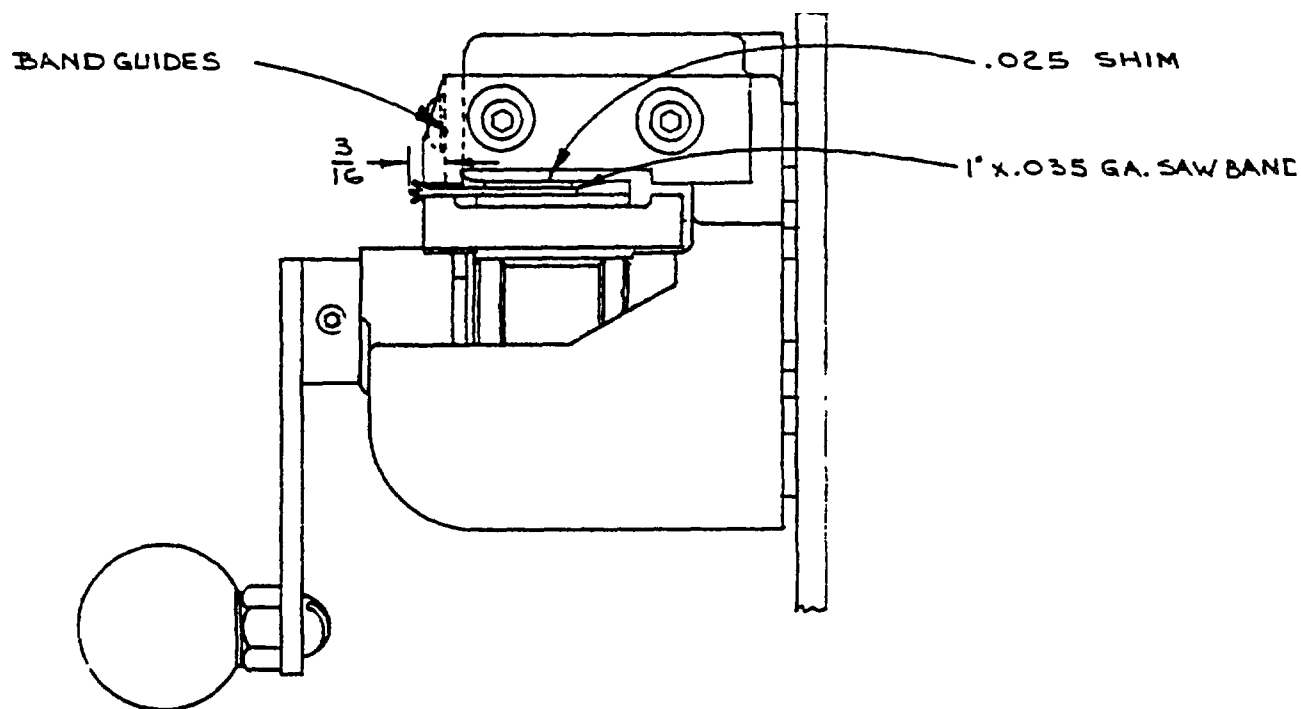

FIG. 6
The blade alignment guides are used to maintain tooth edge alignment of the ends of the band being welded. Before installing the band guides, check their mounting surfaces on the welder jaws. These surfaces must be in line within .004", when checked with a straight edge. A file may be used to bring the surfaces in line. The guides are aligned to protrude below the band clamping surface of the welder jaws by .025" (Fig. 6). Adjust in the following manner:
2. Insert a section of 1" x .035 ga. band into the welder jaws. The band must be out of the jaws (teeth extend in front of alignment guides by at least 3/16") as shown in Fig. 6.